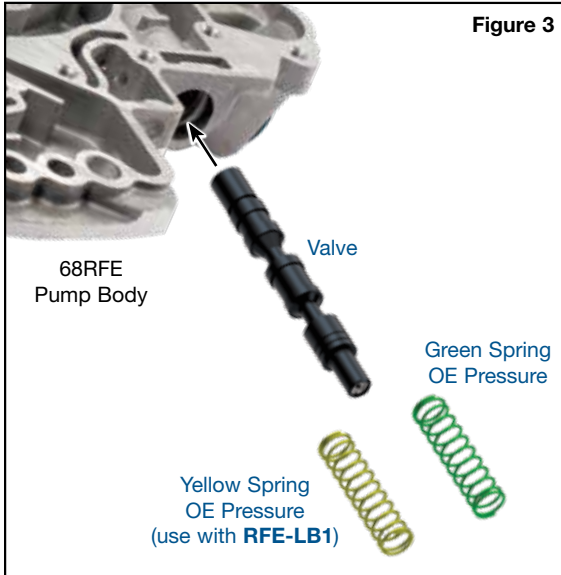

Figure 3
- Select appropriate Sonnax spring (**Figure 3**). Install spring into bore. Ensure spring is seated over valve spring guide.